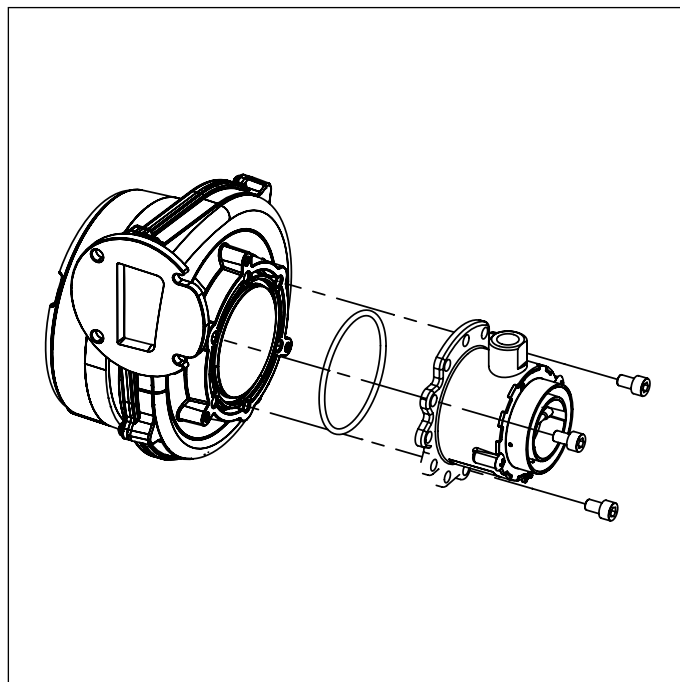

Fig. 35 Mixer
- Loosen the three socket head screws, and remove the mixer (see Fig. 35 Mixer).